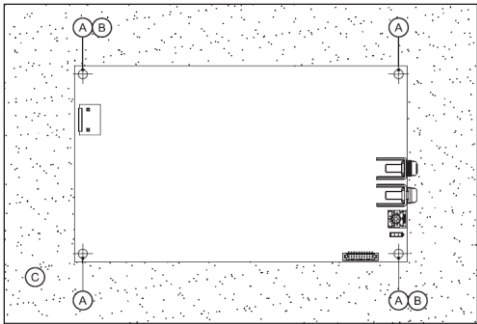
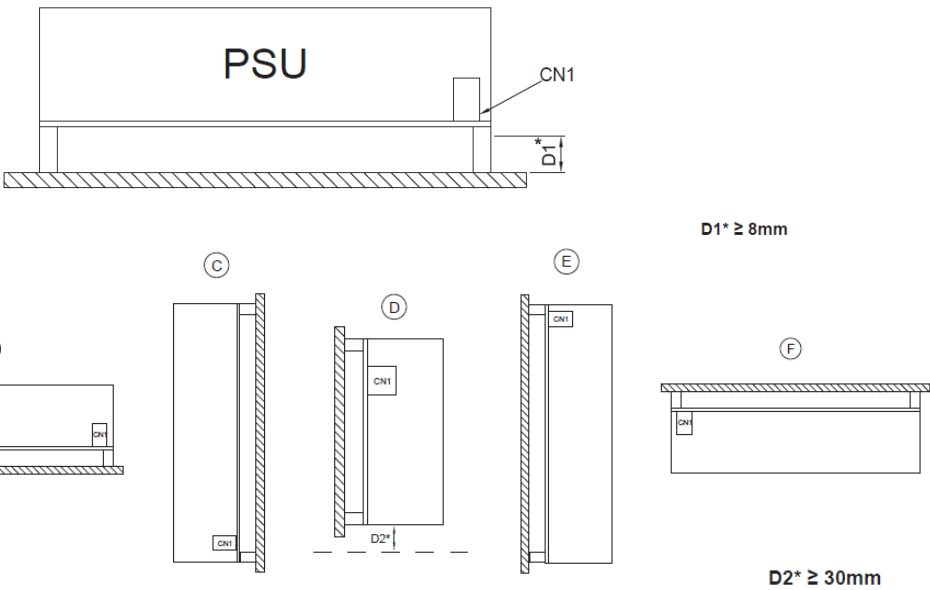

Fig. 2 Installation of the Device
Fig. 3 Assembly Reference
- Please insert an insulation sheet between the system and product, if the safety distance is < 8mm (0.31 inch) for D1 (Refer to Fig. 3 Assembly Reference)
- For (A), (D) orientations, ensure sufficient convection cooling, always maintain a distance of  $\geq 30\text{mm}$  (1.18 inch) for D2 below the device while the device is in operation.
- For Protection against shock to Class I with PE (protection earth) and Class II with or without FG (functional ground) product, the two mounting holes (marked (B) in Fig. 2) need to be connected together to the system's protective earth or functional ground. Pollution degree and EMC performance with different connections please refer to environment and EMC section.